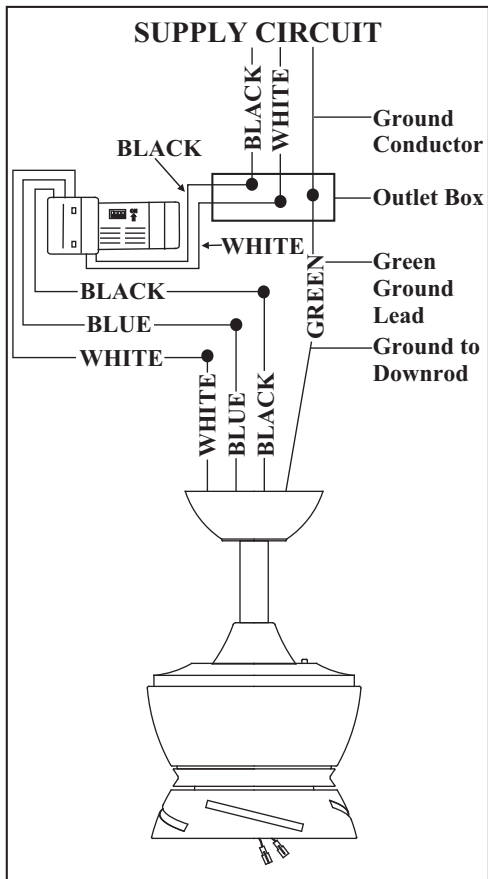

Figure 14
2. (Fig. 14) Motor to receiver electrical connections: Connect the black wire from the fan to black wire marked "TO MOTOR L". Connect the white wire from the fan to the white wire marked "TO MOTOR N" from the receiver. Connect the blue wire from the fan to the blue wire marked "For Light" from the
3. (Figure 14) Receiver to house supply wires electrical connections: Connect the black (hot) wire from the ceiling to the black wire marked "AC in L" from the receiver. Connect the white (neutral) wire from the ceiling to the white wire marked "AC in N" from the receiver. Secure the wire connections with the plastic wire connecting nuts provided.
4. (Figure 14) If your outlet box has a ground wire (green or bare copper) connect it to the fan ground wires; otherwise connect the hanging bracket ground wire to the mounting bracket. Secure the wire connection with a plastic nut provided. After connecting the wires spread them apart so that the green and white wires are on one side of the outlet box and black and blue wires are on the other side. Carefully tuck the wire connections up into the outlet box.